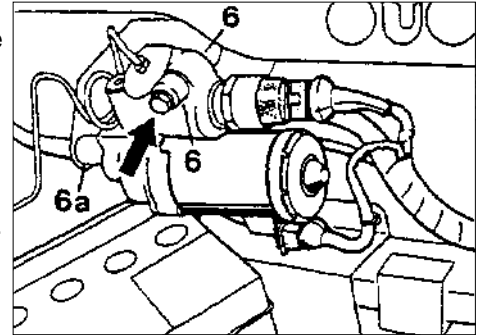

Figure 3
The securing bushings (quantity 3 of 6 and 6a in Figure 3) for the hydraulic pump must be replaced with the new version (black in color).
- Remove the bolt (arrow in Figure 3), and **without** loosening the hydraulic lines pull the pump off the mounting brace.
- Reinstall the pump onto the mounting brace. Secure the pump with the mounting bolt (arrow in Figure 3) and torque to 10 - 13 Nm (7.2 - 9.4 ftlbs).